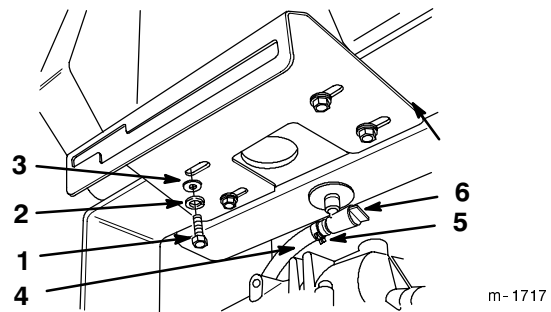

Figure 4
- Secure control panel and fuel tank to rear frame with (4) 7/8 in. (22.5 mm) bolts, lock washers and washers (Fig. 4).
- Slide hose clamp onto fuel line (Fig. 4). Push fuel line onto fuel tank fitting and secure with hose clamp (Fig. 4).